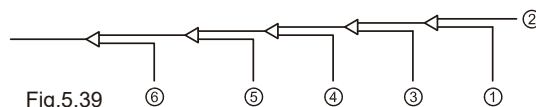

Fig.5.39
8. Flush the other openings in the same manner, working in sequence from indoor unit A towards the outdoor units. Refer to Fig.5.39